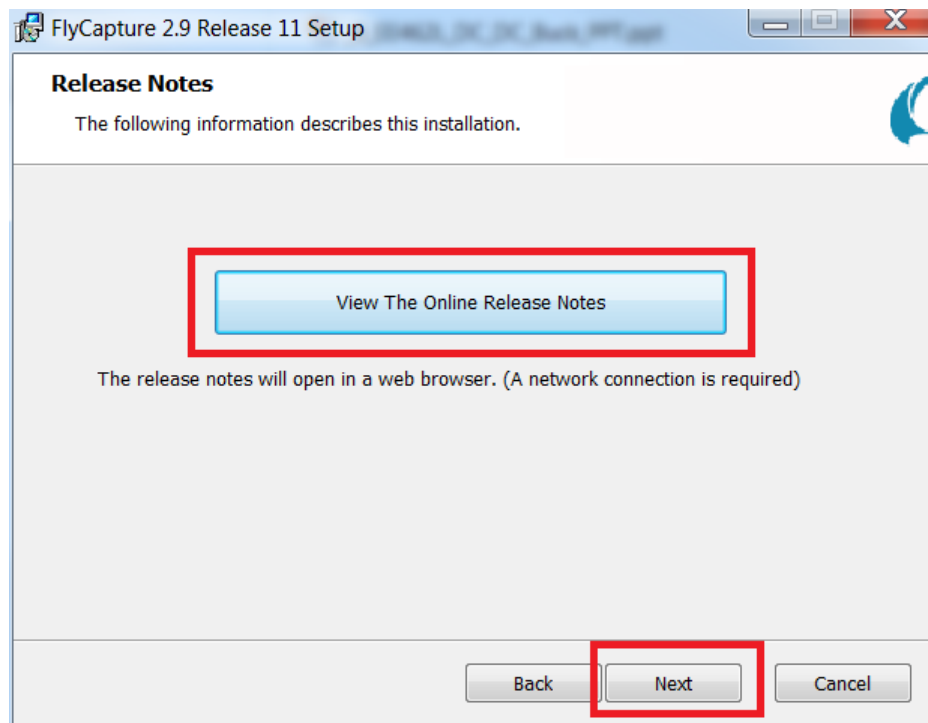

Figure 2-5. FlyCapture2 SDK Release Notes
5. Read the online release notes and click the "Next" button, shown in Figure 2-5, to proceed with the installation.